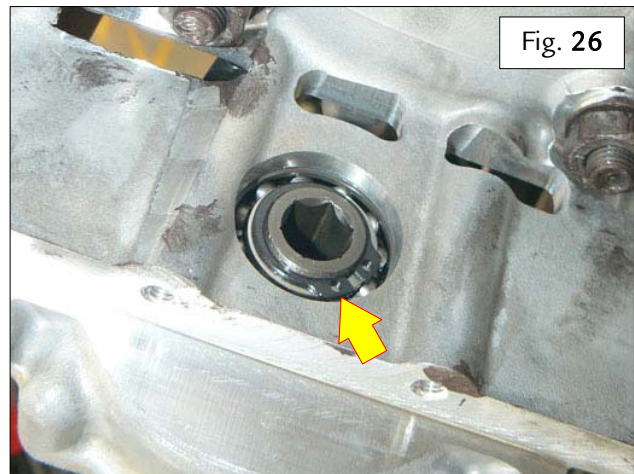

Fig. 26
- 2B.70 Remove the indicated snap ring on the drive gear of the oil pump – Fig. 26.